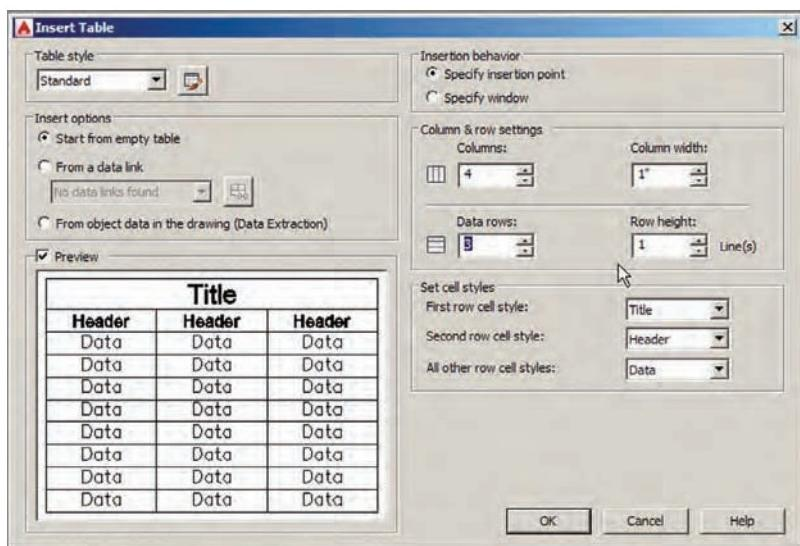

FIGURE 15.17 Specifying the number of columns and rows and their width and height
8. Click the Table tool in the Annotation panel. Set the number of columns to 4 and data rows to 3 in the Insert Table dialog box. Set Column Width to 1" (or 2.50 cm) (see Figure 15.17). The Title, Header, and Data cell styles you customized within the Standard table style will be used by default. Click OK.